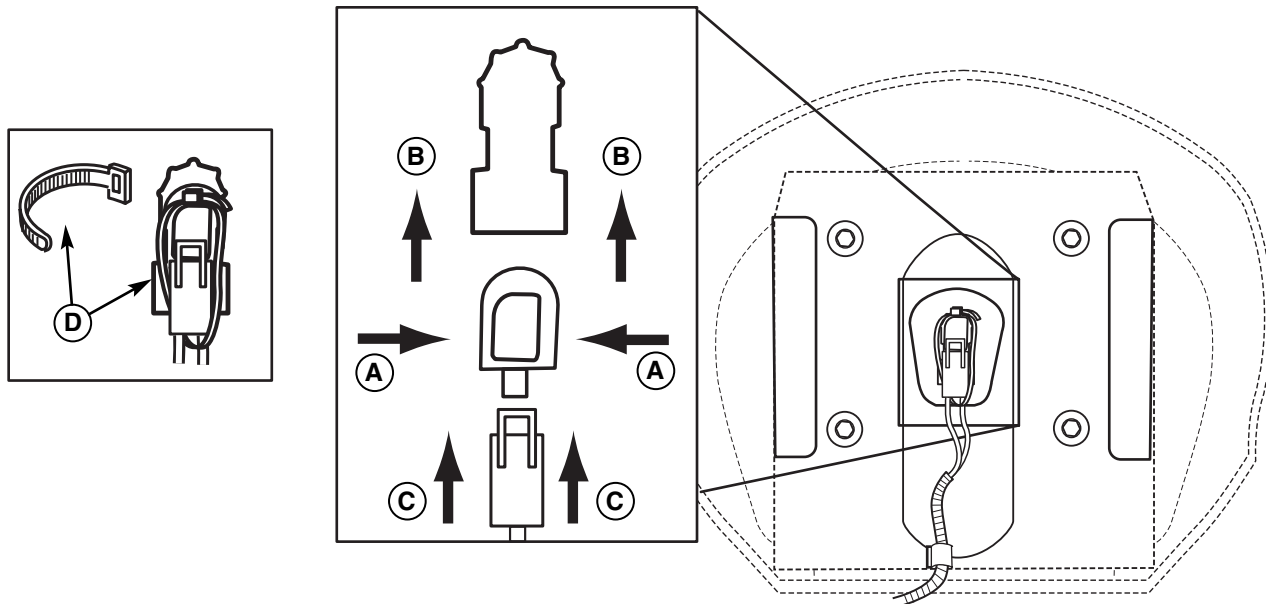

Figure 6. Installing the seat safety switch
1. Squeeze the side clips of the safety switch (A, Figure 6), and insert the switch into the slot (B) in the seat bottom. Be sure to slide the switch fully forward.
2. Connect the harness terminal housing (C) to the seat switch.
3. Loop the wire tie (D) around both the switch body and the terminal housing.